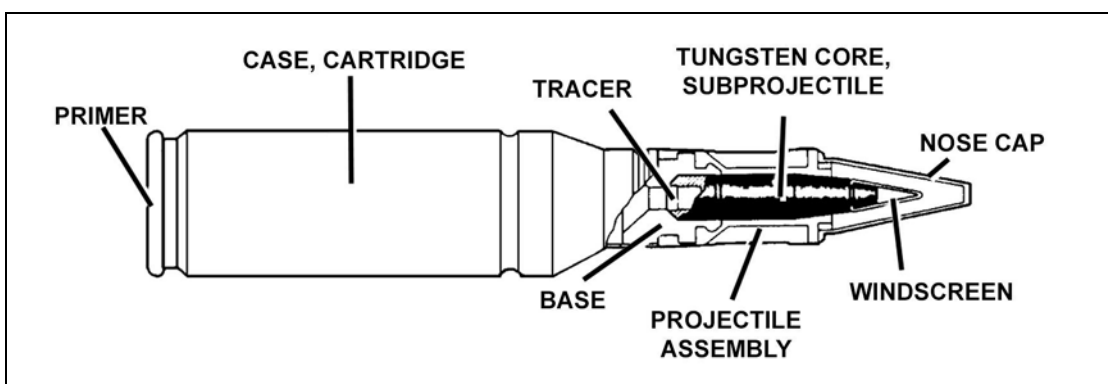

Figure 2-8. M791 APDS-T.
a. **M791 Armor-Piercing Discarding Sabot with Tracer.** The APDS-T (Figure 2-8, page 2-14) penetrates lightly armored vehicles, self-propelled artillery, and aerial targets such as helicopters and slow-moving, fixed-wing aircraft.